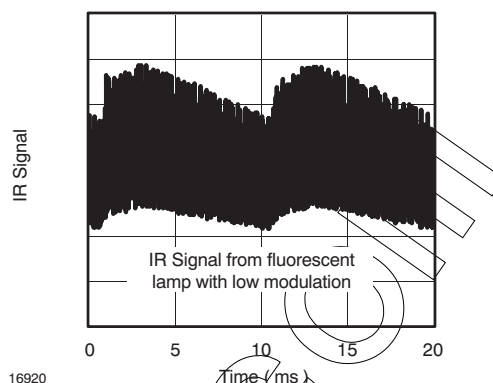

Figure 13. IR Signal from Fluorescent Lamp with low Modulation
- Signals from fluorescent lamps with electronic ballast with high or low modulation (see Figure 13 or Figure 14).